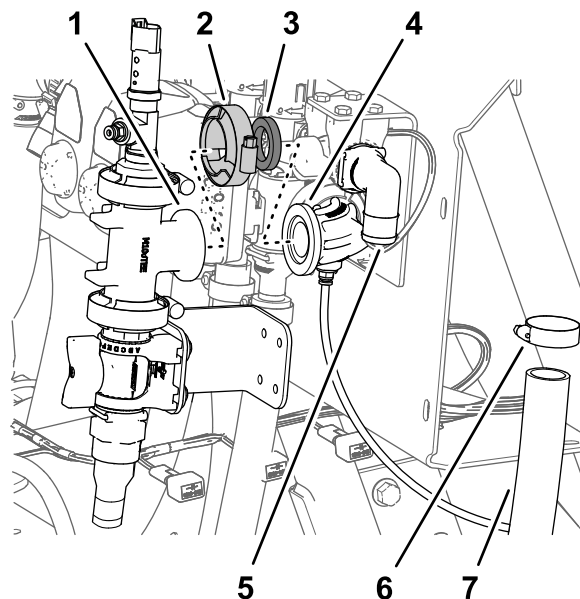

Figure 44
1. Loosely assemble the T-fitting and the 90° fitting with a gasket and a flange clamp (Figure 44).